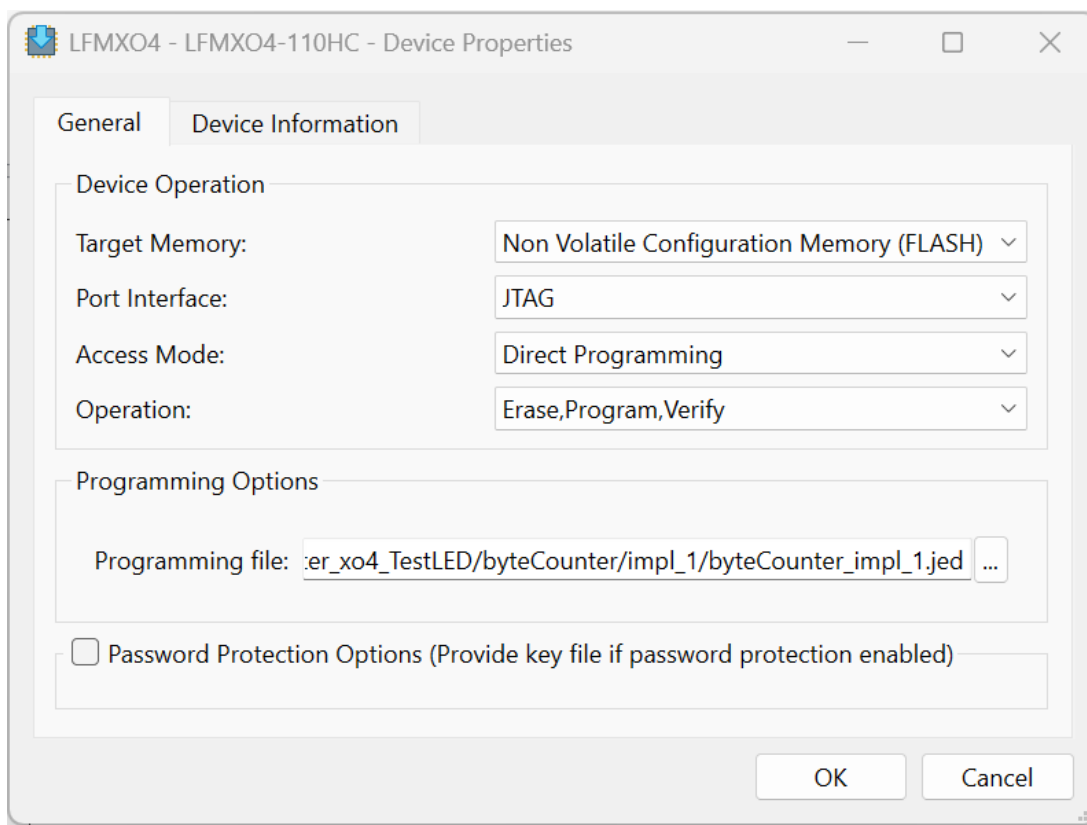

Figure 3.4. Bit file programming
- Double-click the **Operation** field and select the appropriate programming mode. For example, select **Non-Volatile Configuration Memory (FLASH)**. See Figure 3.4.